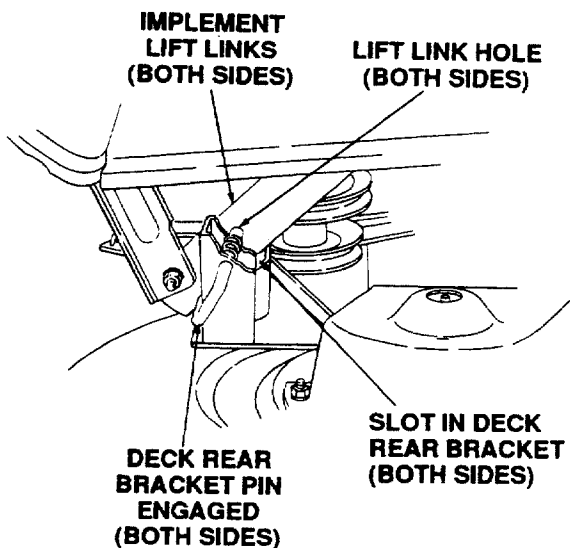

Figure 52
- Carefully engage the tractor implement lift links (left and right) into the deck rear bracket slots (left and right) as the tractor implement lift handle is lowered to its lowest setting. (Refer to Figure 52.)
- Pull the deck rear bracket pins outward, turn upward so the open ends of the pins are outside the brackets and release. Adjust each pin until it passes through the hole on the inside of the bracket and the hole in the lift link. (Refer to Figure 52.)